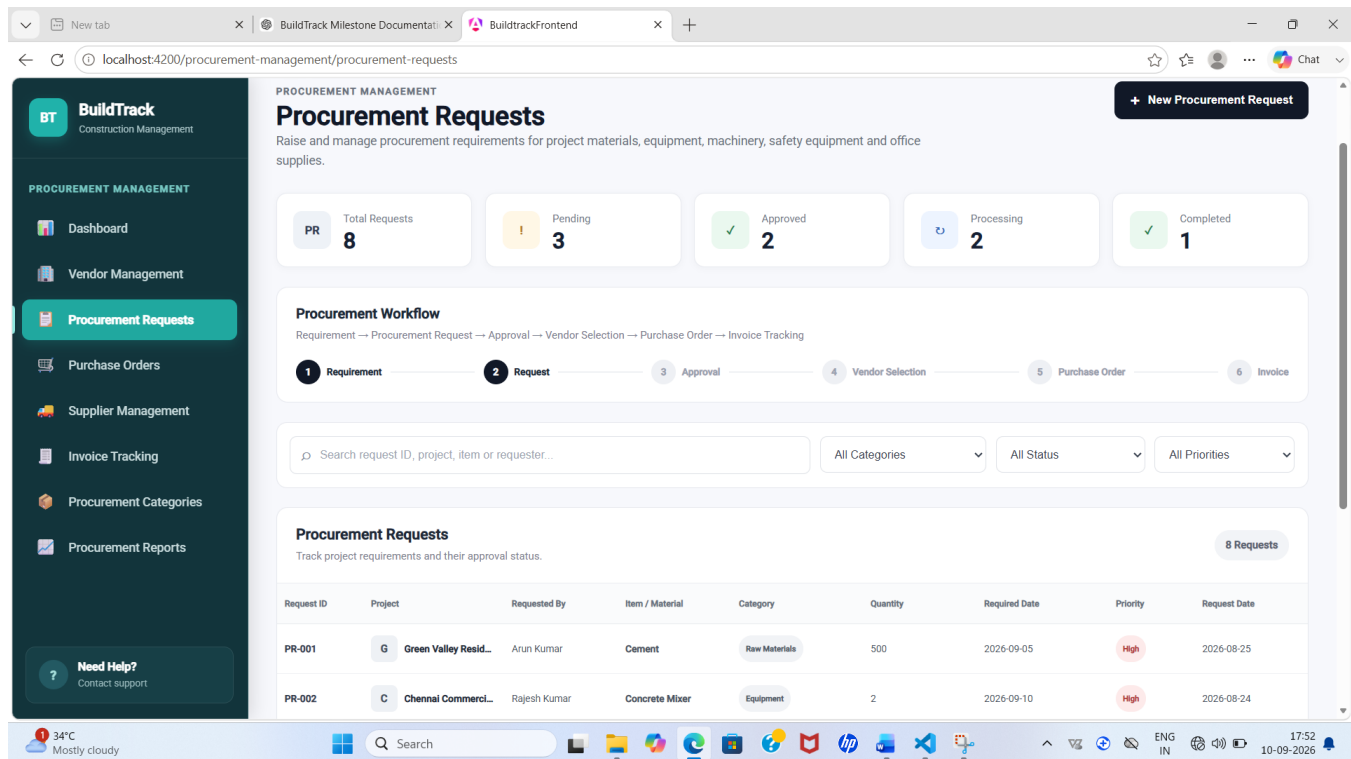

Figure 11: BuildTrack – Procurement Requests
- Figure 11 – Procurement Requests